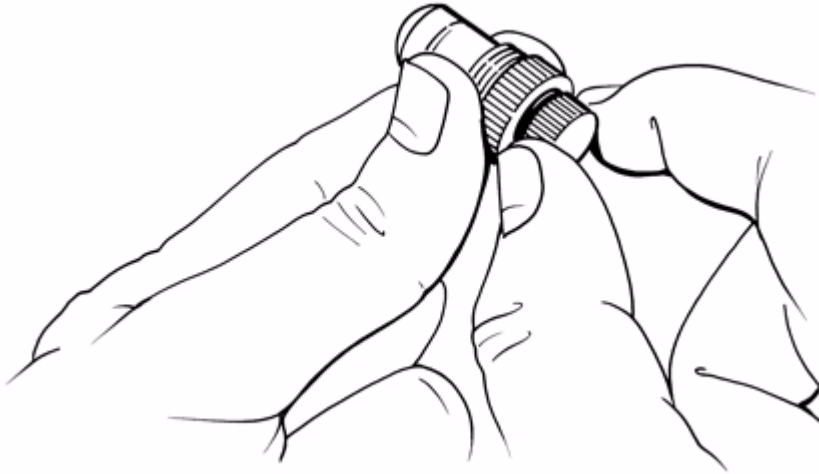

Figure B-3. Adjusting the Stylus Depth change the diagram.
Step 2: Hold the stylus holder as shown here (Figure B-3) to make the adjustment.